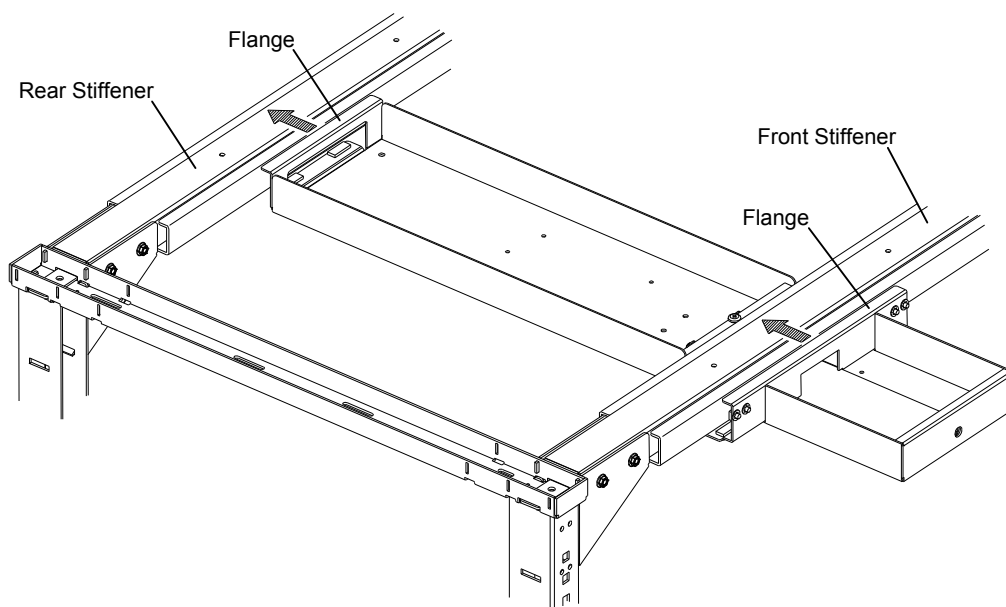

Figure 3.
4. Push the assembly toward the rear of the bench to engage the flanges with the front and rear Stiffeners. See figure 3.